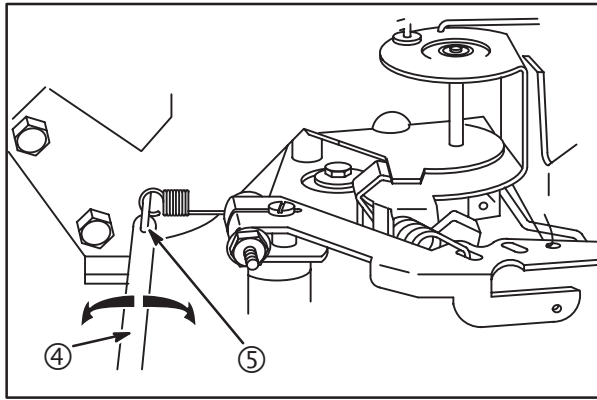

Fig. 12
5. Then turn idle mixture screw **COUNTER-CLOCKWISE** (3) until engine speed just starts to slow (RICH mixture).
6. Turn screw to mid point (2) between RICH and LEAN.
9. If necessary bend governed idle tang (5) with Tang Bender #19352 (4), **Fig. 12**, to obtain RPM shown: